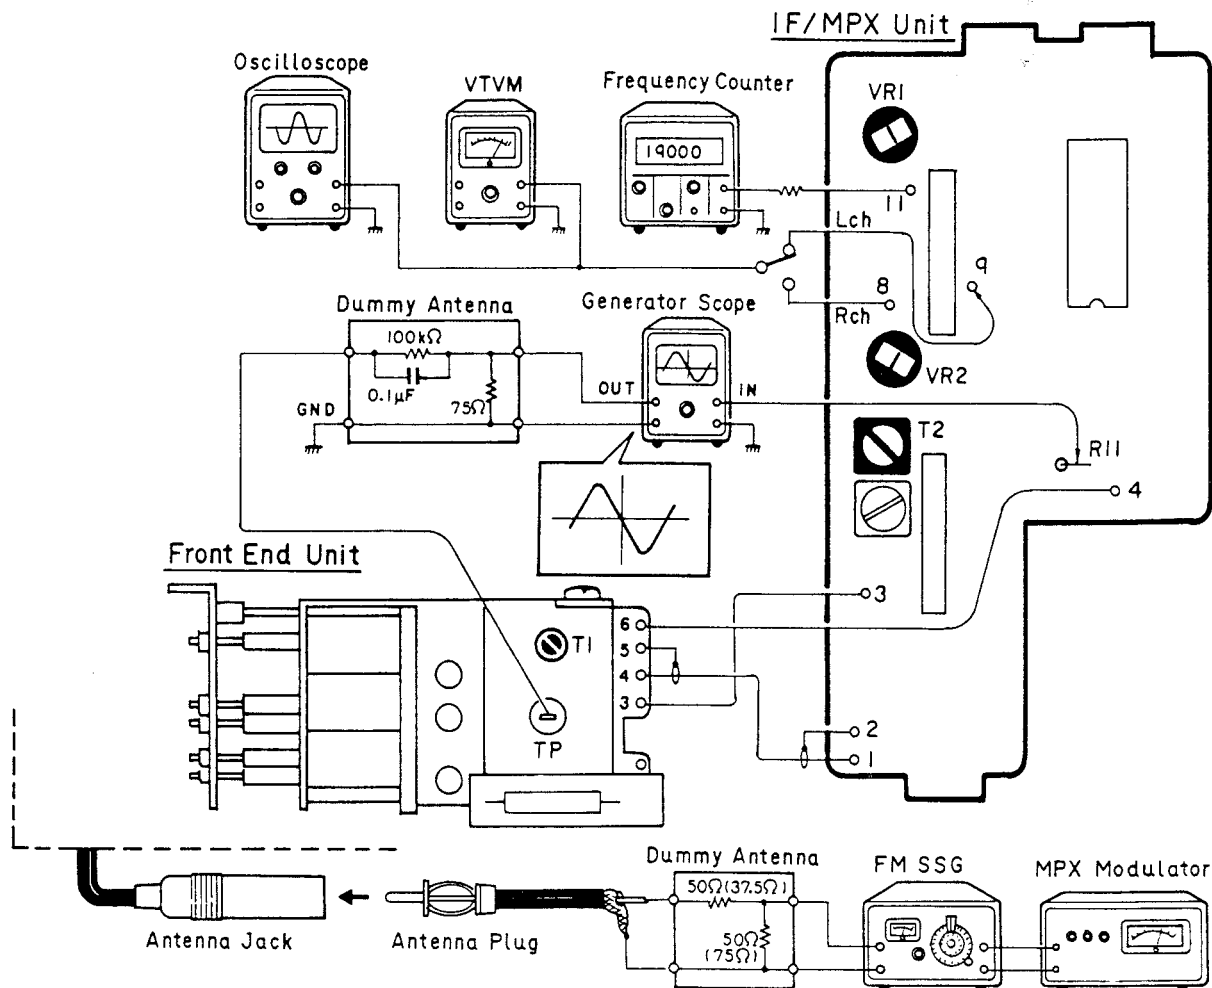

Fig. 8
2. A waveform shown in Fig. 8 is obtained on the generator scope when the hook-up is made as illustrated above and the power source is applied to.
• Connection Diagram (Shown in Fig. 8.)